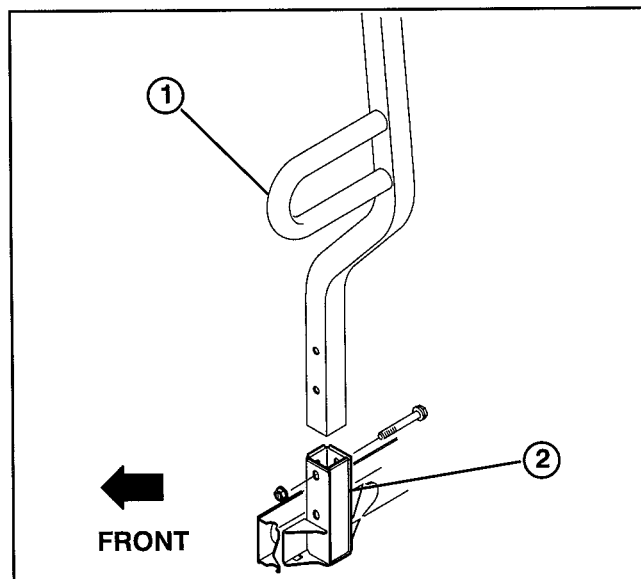

Figure 10
INSTALL ROPS (Fig. 10)
- Insert each side of ROPS into mounting bracket on each side of vehicle frame, positioning ROPS as shown in figure 10.
- Secure each side of ROPS to mounting brackets with (2) 1/2-13 x 3" lg. capscrews and locknuts.